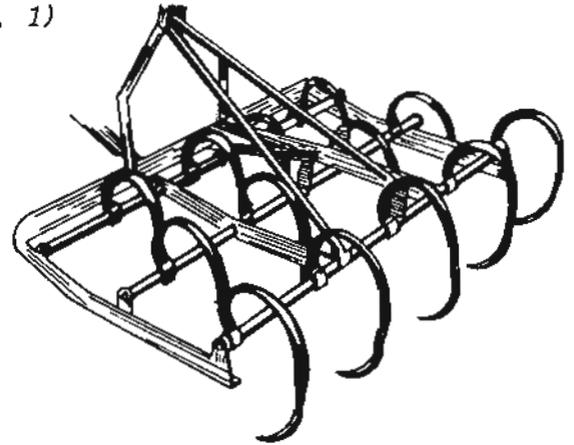

Fig. 1
*CASO I - RASTRA INTEGRAL (fig. 1)*